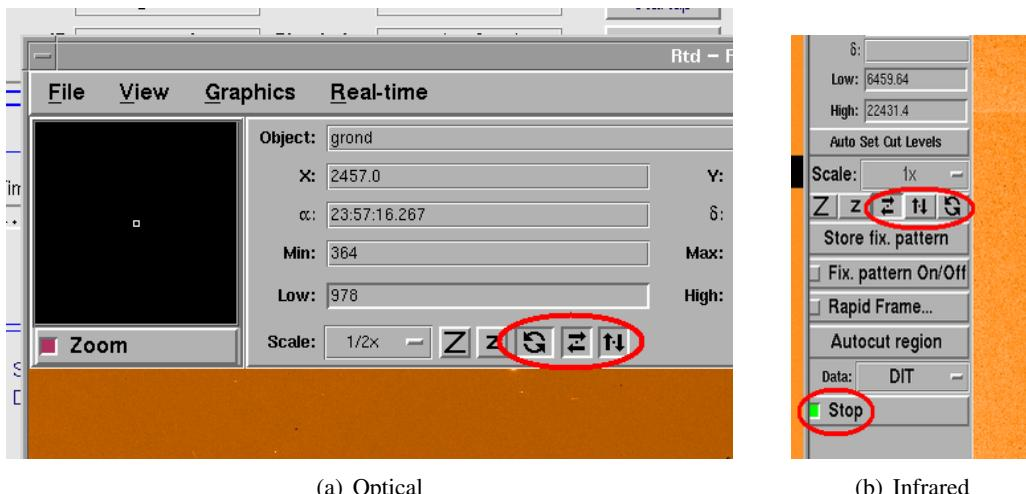

Figure 2.10: Correct sky orientation of the **GROND** displays. The infrared one is receiving data in real time (green checkbox).
- c. Check that image is flipped along both axes and rotated (see Fig. 2.10(a), p. 34).
The left column should have a green button with text Stop (see Fig. 2.10(b), p. 34).
- g. Check that the image is horizontally flipped (see Fig. 2.10(b), p. 34).